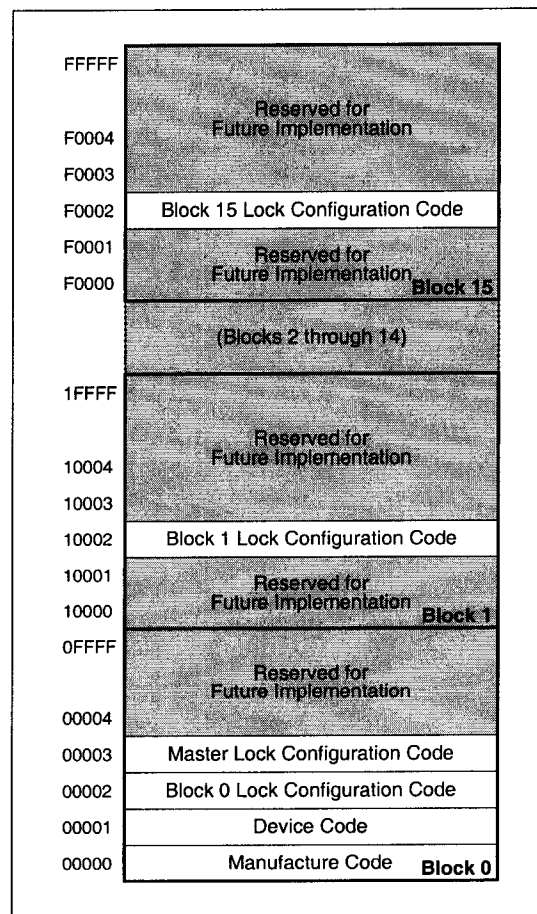

Fig. 2 Device Identifier Code Memory Map
The read identifier codes operation outputs the manufacture code, device code, block lock configuration codes for each block, and the master lock configuration code (see Fig. 2). Using the manufacture and device codes, the system CPU can automatically match the device with its proper algorithms. The block lock and master lock configuration codes identify locked and unlocked blocks and master lock-bit setting.
IA = Identifier code address : see **Fig. 2**.
The identifier code operation is initiated by writing the Read Identifier Codes command. Following the command write, read cycles from addresses shown in **Fig. 2** retrieve the manufacture, device, block lock configuration and master lock configuration codes (see **Table 4** for identifier code values). To terminate the operation, write another valid command. Like the Read Array command, the Read Identifier Codes command functions independently of the VPP voltage and RP# can be VIH or VHH. Following the Read Identifier Codes command, the following information can be read :
1. X selects the specific block lock configuration code to be read. See **Fig. 2** for the device identifier code memory map.